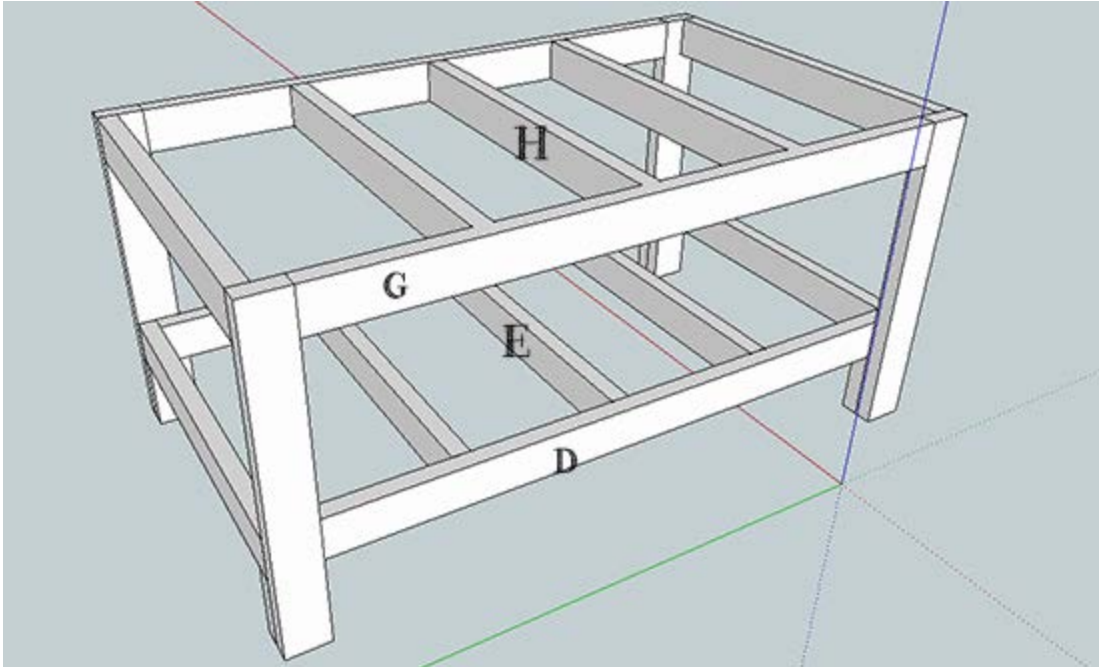

Figure 6: Support Ribs
8. With the outer structure built, it's time to add the bottom and top ribs. The bottom ribs, the 'E' boards, get secured to the 'D' boards. Place the first one in the center of the 'D' span and the second and third pieces equally spaced on either side of the first board. Repeat this step for the top ribs: the 'H' boards (Figure 6).